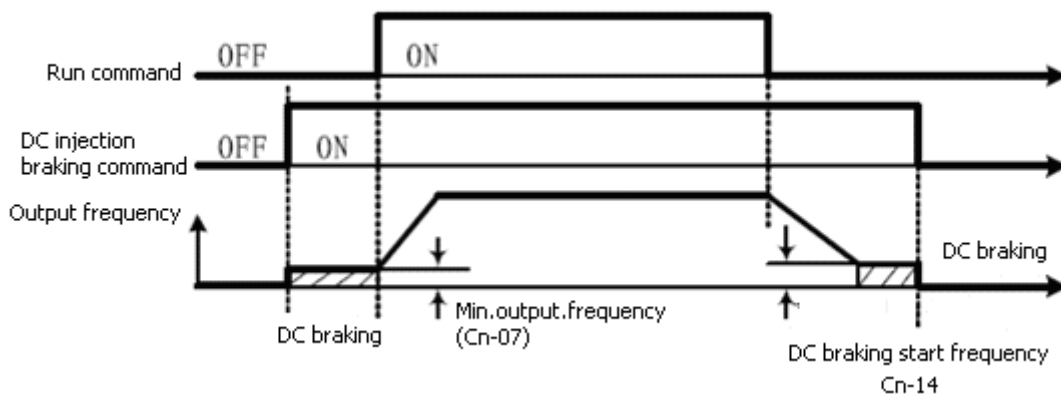

Fig.4-34 DC Injection Braking Operation Can be An External Fault Input Terminal
- DC injection braking operation is shown Fig.4-34: